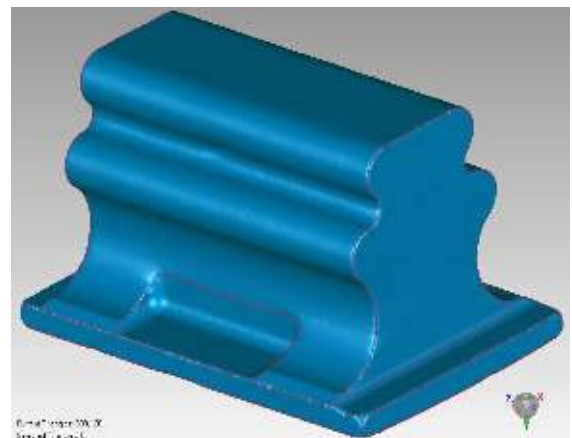

Figure 115
*☞ The projected curves will be converted to **Boundaries**, see **Figure 115**.*